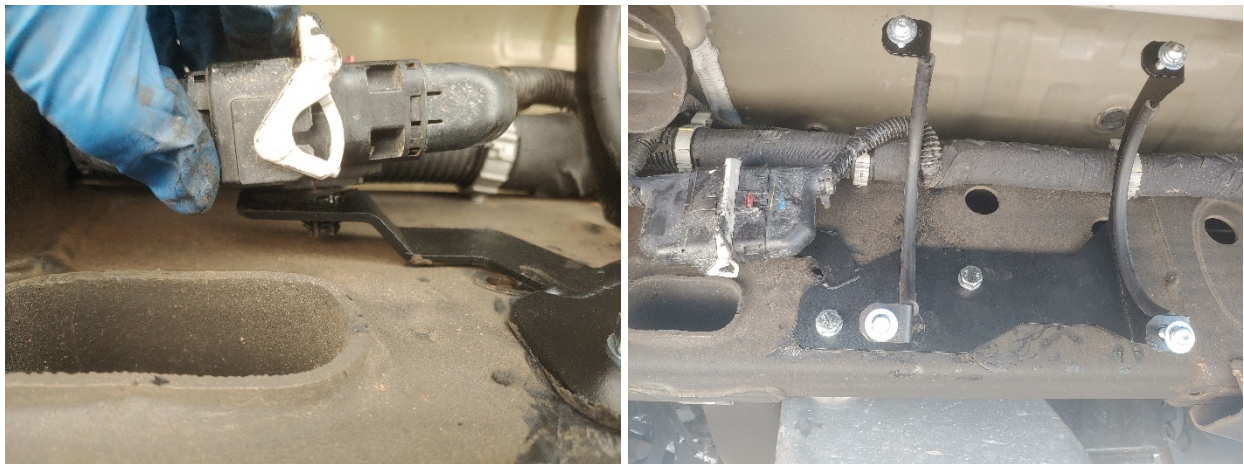

Figure 18- Tank Bracket Installation, Connector Placement
5. Remove the right side bolt that is recessed within the frame rail, swivel the bracket into place and fasten the bracket using hardware H1 & attach the connector to one of the slots on the tank bracket, as shown in figure 18 above.